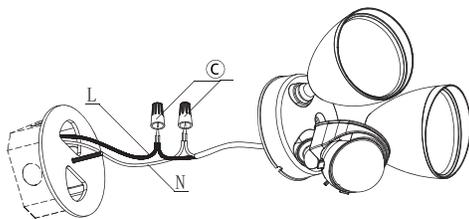

Fig 2-3
3. Connect the wires according to the Wiring Diagram and secure with Wire Nuts (**C**). Secure the junction box's Ground Wire on the Mounting Bracket (**D**). Tuck wires into junction box once you confirm wire connections are secure. (Fig 2-3)